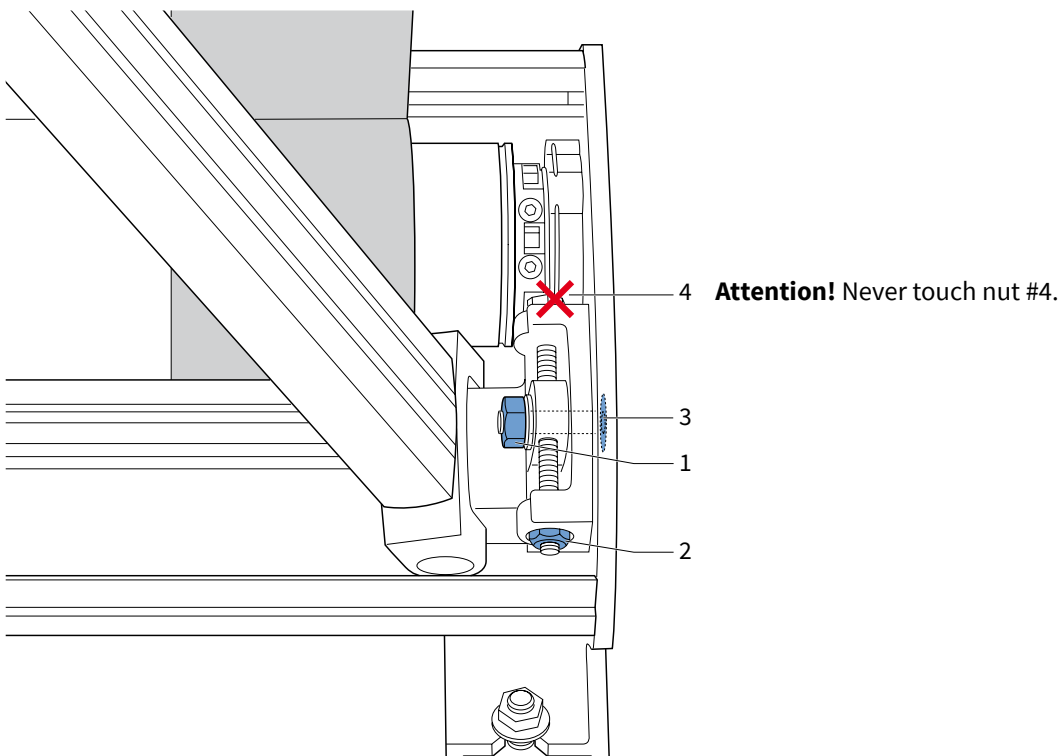

fig. 4.1 Detail arm connection right
2. Twist nut #1 in one turn (wrench 17). Lift the front bar during the twist so that the adjusting bolt (or allen) moves easily. See figure 4.1.